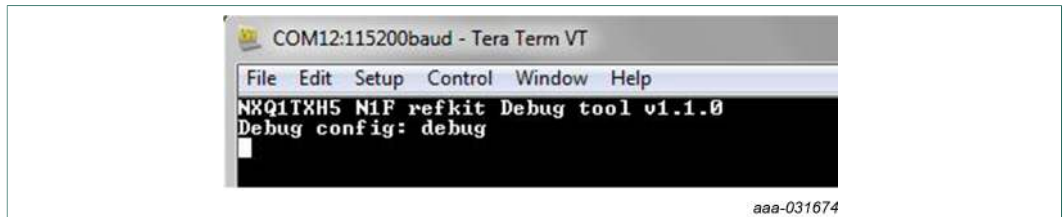

Figure 4. Message after power-up
- Supply power to the NXQ1TXH5DB1401 board and you see the message as indicated in Figure 4.